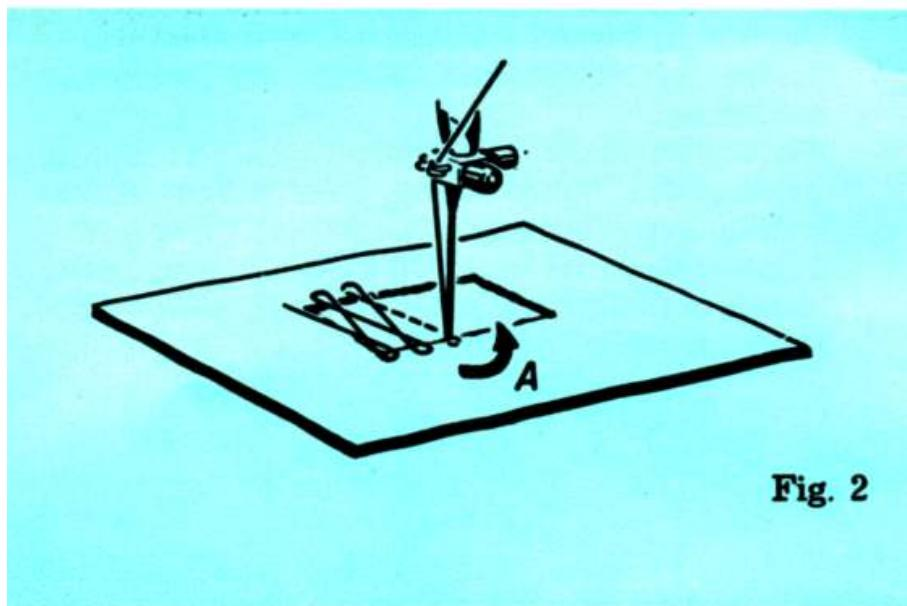

Fig. 2
5. Proceed to sew as illustrated by Fig. 2. This same Fig. 2 shows how fabric must be turned slightly in direction indicated by arrow « A », before letting it recommence its backward movement.